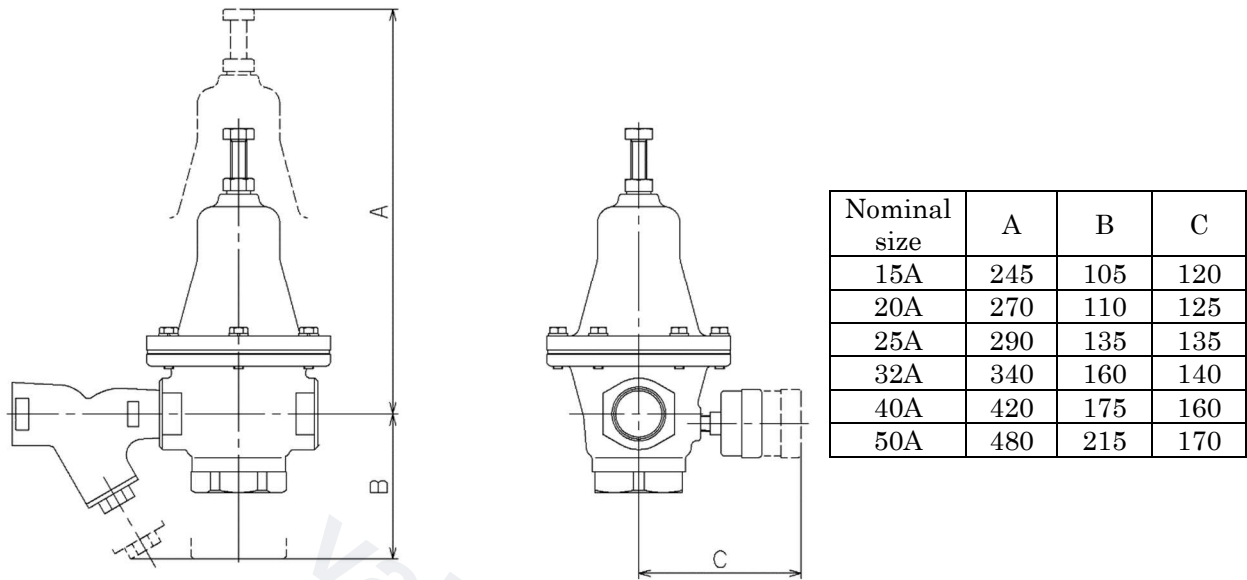

Fig.1
- (5) Install a pressure gauge at the inlet side of the valve.
- (6) When installing quick open and close valves, such as a solenoid valve, secure at least 3 m from the valve.
- (7) When pressure reducing in two stages, secure at least 3 m between the valves.
- (8) Install the valve in proper direction of the fluid flow.
- (9) Do not apply excessive load, torque or vibration to the valve.
- (10) Secure the necessary maintenance space at the installation site of the pressure reducing valve. (See Fig.1)
- (11) The set pressure of safety relief valve must be higher than the set pressure of pressure reducing valve.
- (12) Do not freeze pressure reducing valve.
- (13) Do not allow pipe adhesive materials to leak into pressure reducing valve.
- (14) Replace the factory-installed plug at the pressure gauge joint with the pressure gauge enclosed in the package.
- (15) When using a product with a pressure gauge outdoors, provide a canopy or other protection to prevent rainwater from directly hitting the pressure gauge.